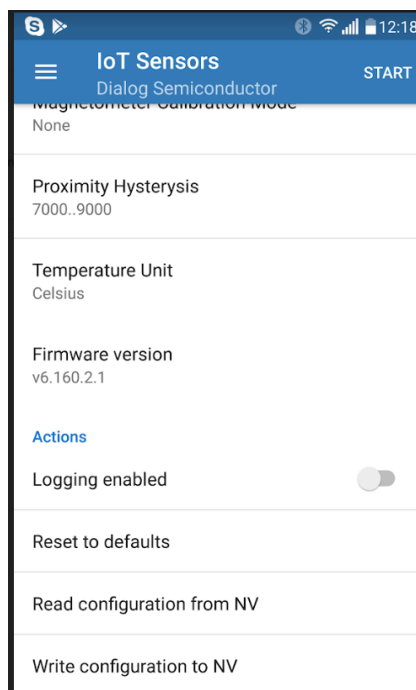

Figure 38: Choices of Basic Settings in Dialog IoT Sensors App
4. In the settings menu, choose “**Basic settings**” and scroll down to “**Reset to defaults**” (Figure 38). The values of the proximity hysteresis have now been adjusted for proper IR proximity functionality.